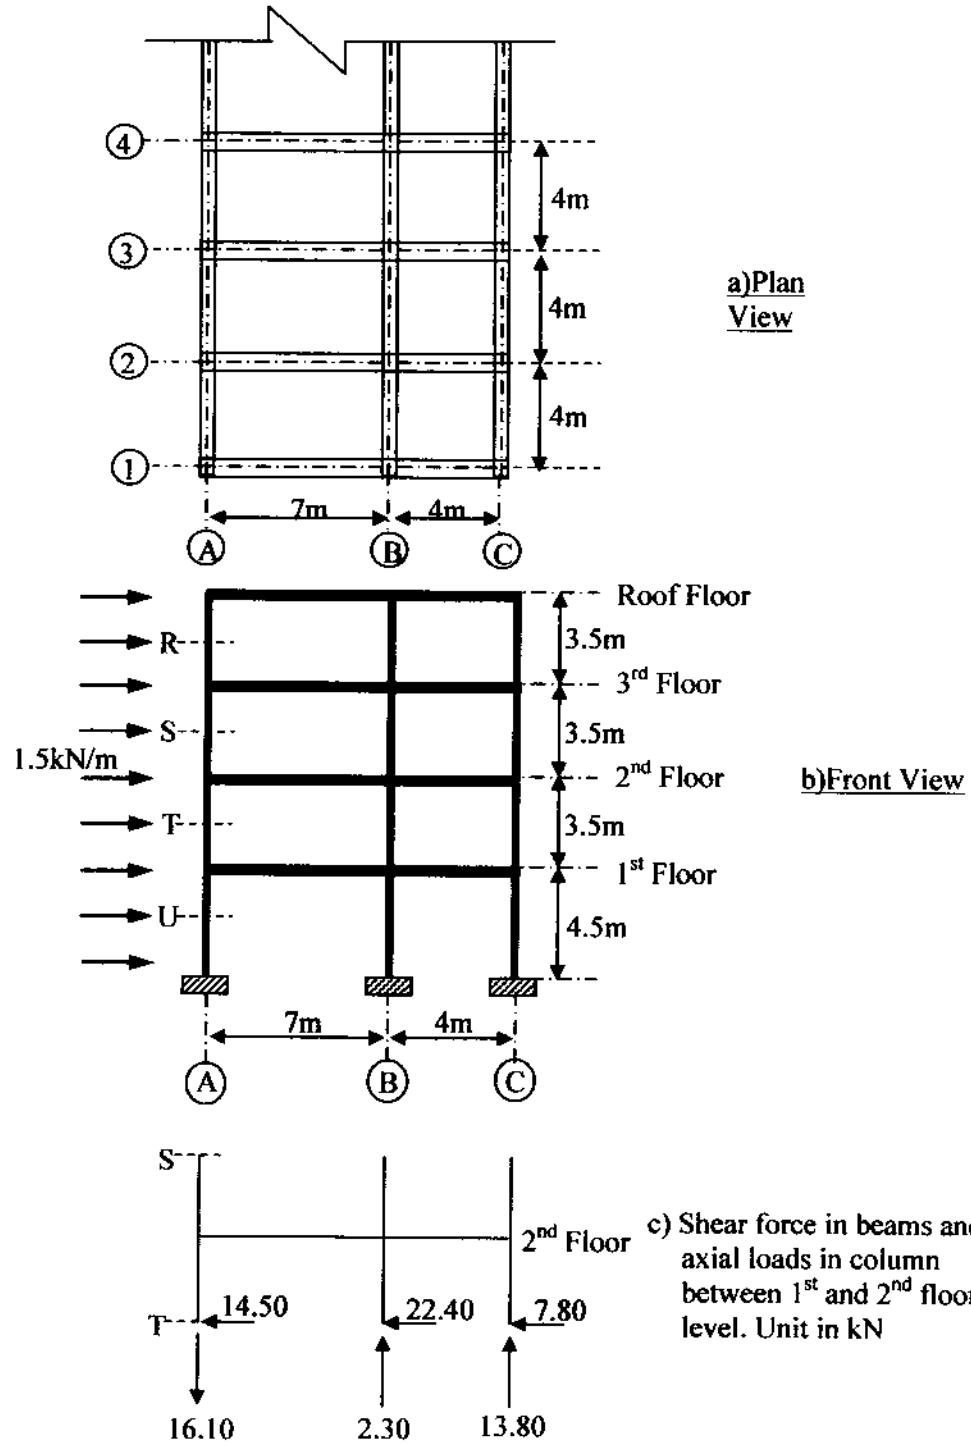

FIGURE Q3
- (ii) Calculate the shear force in beam 2/A-C and column at first floor level due to the horizontal action and part of the analyses are shown in **Figure Q3(c)**.